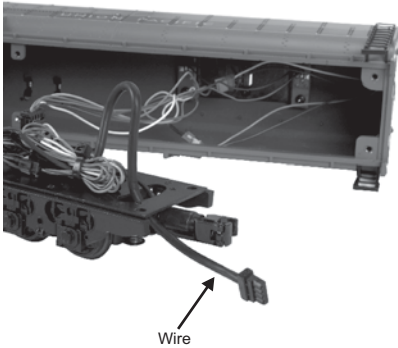

Figure 2. Coal Tender with Shell Removed*
2. Upon removing the tender body, identify the wire harness, which should be secured with a wire tie inside the chassis near the rear of the Main Tender. Cut the wire tie and refer to Figures 2 and 3 to see how the wire harness is fed through the hole at the rear of the floor/chassis. Be sure not to bind or twist the harness during this process.